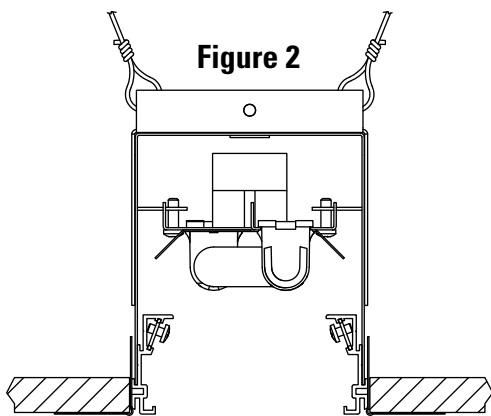

Figure 2
5. Once all fixtures are installed, fasten corner bead material to ceiling, then plaster in fixture and finish ceiling. (Fig. 2)
8. Once all fixtures are installed, fasten corner bead material to ceiling, then plaster in fixture and finished ceiling. (Fig. 2)